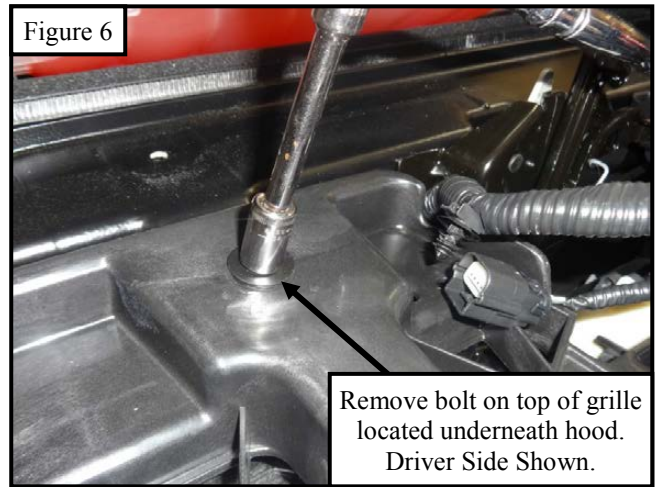

Figure 6
5. Remove all factory hardware and clips attached to grille, then remove grille. See **Figures 6 - 12**.